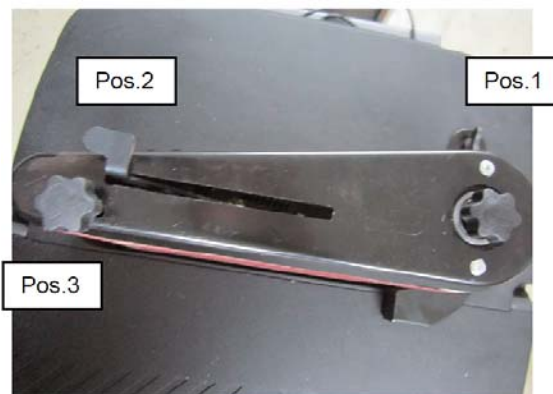

Fig. 8: Adjust belt sander
Step 3: Place the belt sander and tighten it with the star grip position 1 (Fig.8).
Step 4: Using the lever position 2 (Fig. 8), tighten and loosen the sanding belt.
Step 5: Adjust the inclination of the tension pulley with the star knob position 3 (Fig.8).